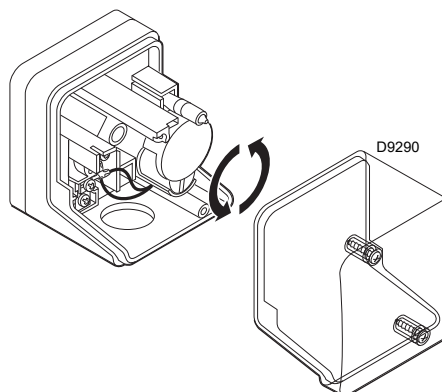

Fig. 50
- Adjust the minimum gas pressure switch (Fig. 50) to the start of the scale.
Adjust the minimum gas pressure switch (Fig. 50) after having performed all the other burner adjustments with the pressure switch set at the start of the scale.